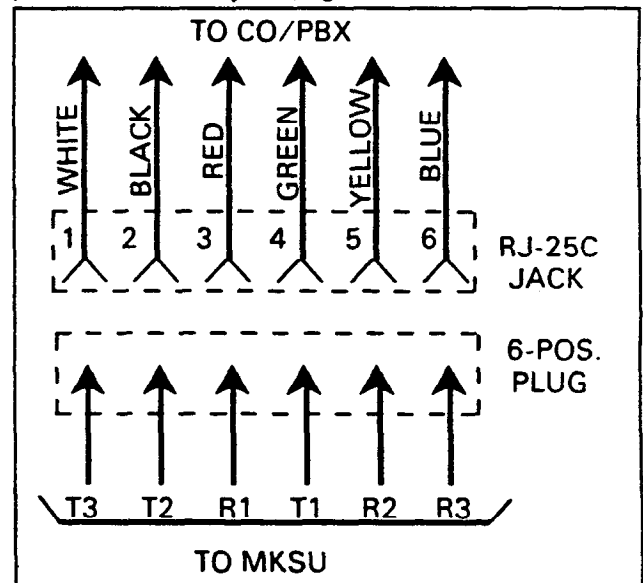

FIGURE 15—RJ25C WIRING
09.31 The CO/PBX lines are introduced into the **Strata S** system via a 6-wire modular line cord (no longer than 25 ft.) connected directly to a jack on the right side panel. The opposite end of the cord then terminates directly into a locally-provided RJ-25C jack (Figure 15).